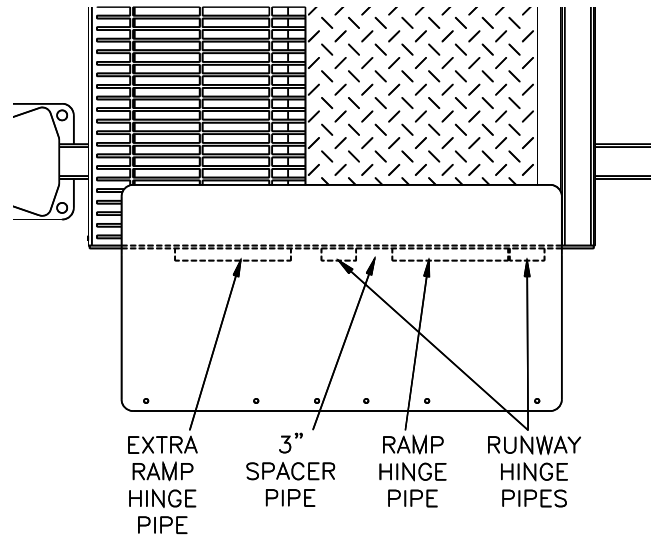

Fig 28 – Rear Ramp Hinge Spacer (left side shown)
- **MDTR** ramps are identical for left and right runways, but different from front to rear. The front ramps are 51 1/4" wide. Attach each to runway with (1) ramp hinge pin and two (2) cotter pins. The rear ramps are 38" wide and have two hinge tubes to allow it to be hung from the left or right runway. Attach each rear ramp, along with a 3" hinge tube spacer, to each runway using (1) ramp hinge pin and two (2) cotter pins, see **Fig 28**. Attach one (1) 20" ramp slide and one (1) 10 1/2" ramp slide to both rear ramps, **Fig 29**. Attach two (2) 20" ramp slides to both front ramps
- **MDTN** ramps are all identical left, right, front, & rear. Secure each with one (1) ramp hinge pin and two (2) cotter pins.